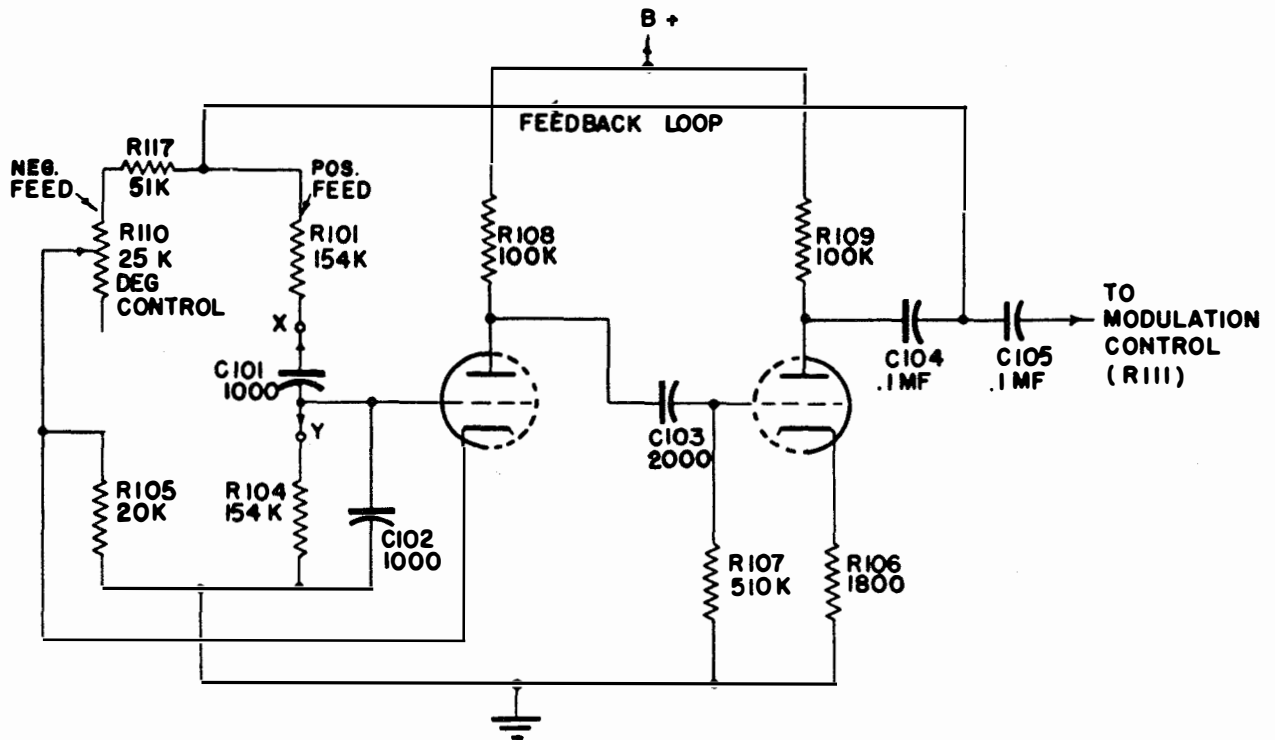

Figure 2-4. Simplified Schematic Diagram of the Modulation Oscillator
(See figure 2-4).
a. The modulation oscillator is contained in the audio compartment and is a standard Wien-bridge oscillator utilizing a 12AU7 dual triode tube (V-102). It is capable of generating an audio signal frequency of either 400 or 1000 cycles per second depending upon the position of the MOD SELECTOR switch (S-103). When the MOD SELECTOR switch is in the "EXT" position, the modulation oscillator is inoperative and an external modulating voltage may be applied to the EXTERNAL MOD INPUT jack (J-103) and thus directly across the % MODULATION control (R-111). Figure 2-4 is a simplified schematic circuit of the modulation oscillator. For purposes of discussion clarity, the mechanics of the MOD SELECTOR switch (S-103) have been omitted. Points X and Y indicate the electrical positions of this switch when set for 1000 cycles per second operation. The complete modulation oscillator is shown in figure 6-23 near the end of Section 6.